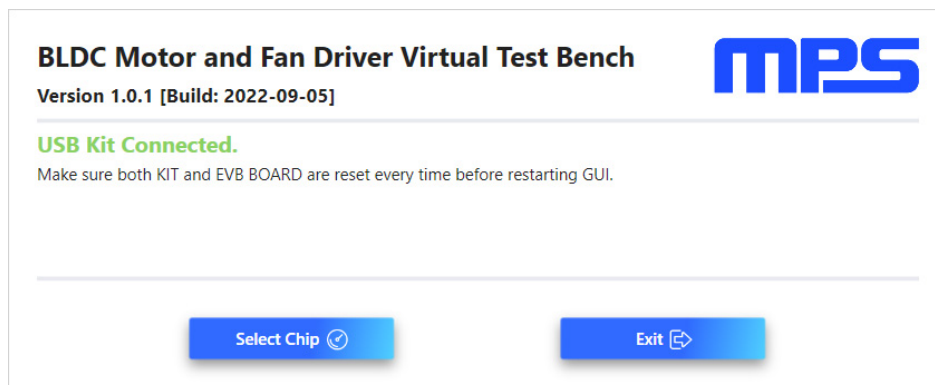

Figure 8: MPS BLDC Virtual Test Bench
1. Install the MPS BLDC Virtual Bench GUI. (2)
2. Double-click “MPSFan.exe” to start the GUI, then click “Select Chip” (see Figure 8).